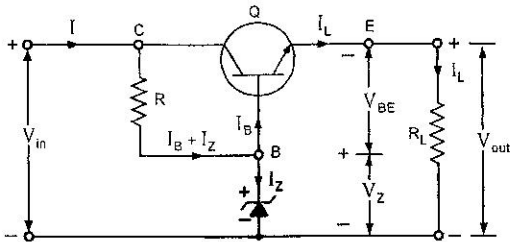

Fig. 32.5. Transistor Series Voltage Regulator
1. Transistor Series Voltage Regulator or Emitter Follower Voltage Regulator. A simple series voltage regulator using an NPN transistor and a zener diode is shown in Fig. 32.5. This circuit is called a *series regulator* because collector and emitter terminals of the transistor are in series with the load, as illustrated in the figure. This circuit is also called an *emitter follower voltage regulator* because transistor Q is connected in emitter follower configuration. Here, the transistor Q is termed a series-pass transistor. The unregulated dc supply (or filtered output from the rectifier) is fed to the input terminals and regulated output voltage V_{out} is obtained across the load resistor R_L . Zener diode provides the reference voltage and the transistor acts as a variable resistor, whose resistance varies with the operating conditions (base current I_B). The principle of operation of such a regulator is based on the fact that a large proportion of the change in supply (or input) voltage appears across the transistor and, therefore output voltage tends to remain constant.